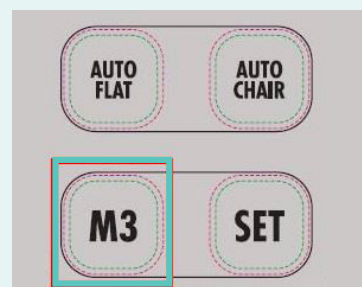

Figure 3
8.3 Auto M3, position function – this third Auto memory position can be programmed to suit your needs for an alternative 'Auto' position. To program this button to a chair position of your choice, please refer the Section 5 of this Manual. To operate, press & hold the button on the handset labelled 'M3' until all actuators/functions have stopped moving and the desired chair position has been reached. (See Figure 3).